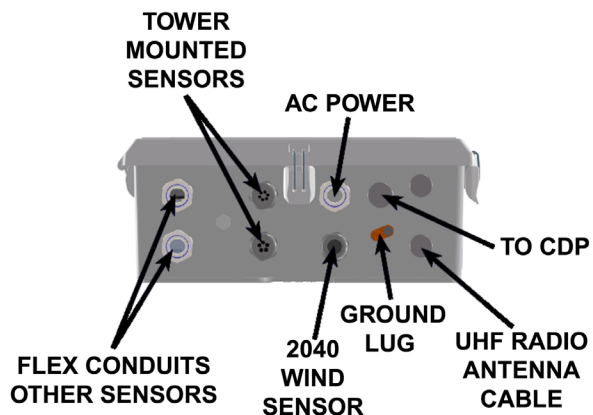

Figure 10. External Connections at Enclosure Bottom
Figure 10 shows the external connections at the bottom of the enclosure.
1. Route the cables from the sensors into the electronics enclosure using the cable glands and grommets shown in Figure 10.
The onboard GPS receiver has a built-in antenna and an SMA connector that can be used for an external antenna. This connector also provides power for active external GPS antennas. The system is configured to use the internal antenna by default. To use an external antenna, attach it to the SMA connector and route the cable through one of the gland seals provided for tower-mounted sensors (Figure 10) Section 3.8.5 explains how to change the system configuration when an external antenna is used. The antenna will likely be mounted near the enclosure on the tower.